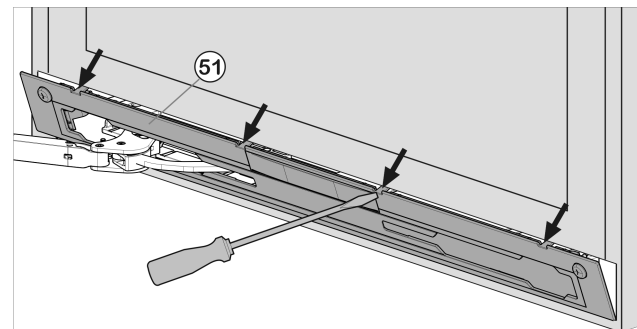

Fig. 18
► Release panel *Fig. 18 (1)* using slotted screwdriver and remove.